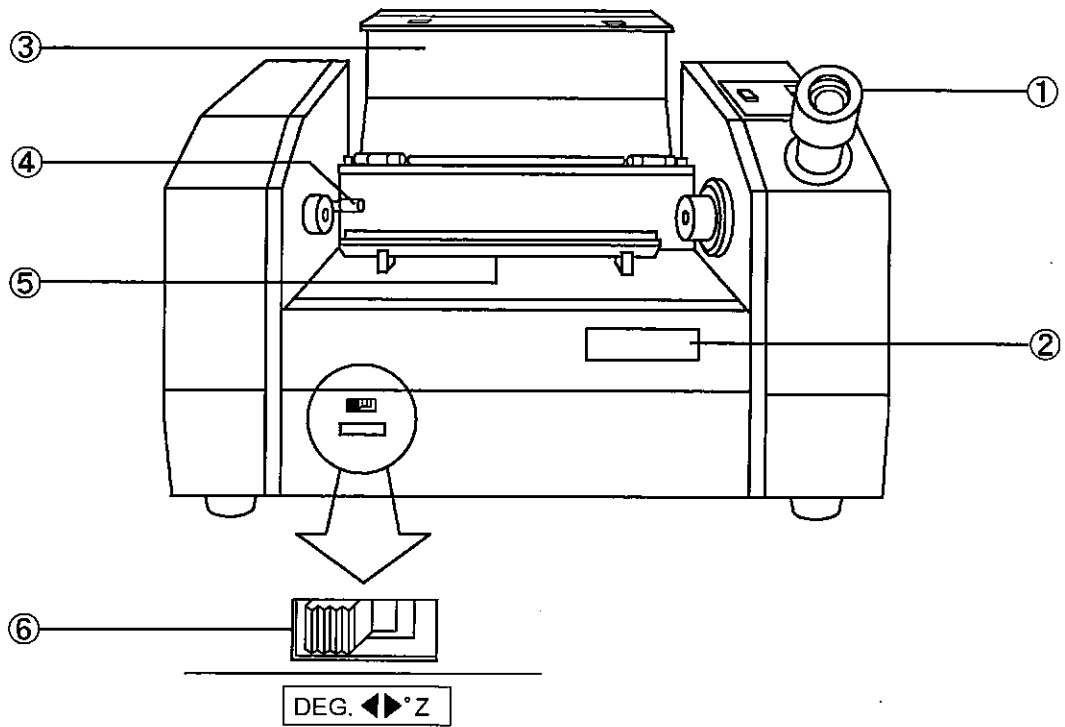

Fig. 3-1
(1) Front side (Figure 3-1)
- ① Eyepiece: